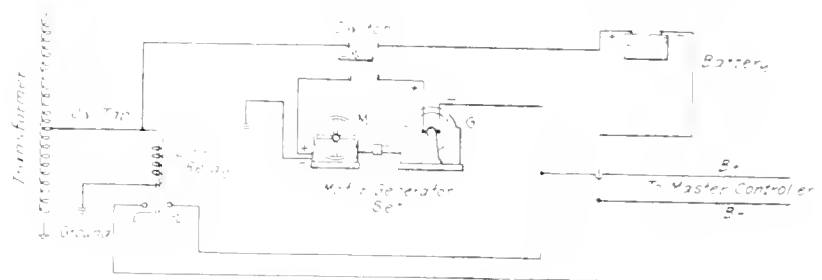

FIG. 16. ARRANGEMENT FOR CHARGING BATTERIES
A. The connections are shown by Fig. 16. A tap is taken from a transformer, usually of approximately 110 volts, and it is connected through a line relay to ground. This tap is also connected to one side of a double pole single throw switch. When this switch is closed, the 110 volts is connected to the motor of the motor generator set. The motor operates and will run whenever power is on the transformer. The other side of this switch is connected in the generator circuit—the generator, as mentioned above, supplies current to the battery, charging same. It is noted that the negative side of the generator is connected to the contacts on the line relay which are closed whenever the main transformer is energized. The object of this line relay is to prevent the battery feeding back into the generator, running the generator as a motor when the power is cut off